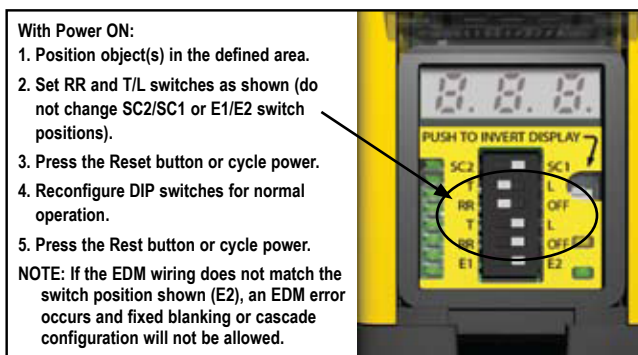

Figure 3-14. DIP switch configuration to teach fixed blanking
- From normal operation or a power OFF condition, move the second and third DIP switches (the first RR and T/L) both to the left (T and RR position). See Figure 3-14.